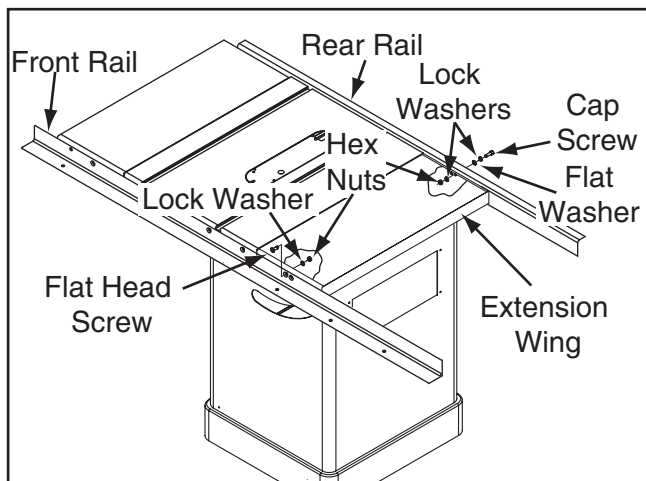

Figure 24. Extension wing attached to Model G0696X/G0697X.
2. With the assistance of a helper, place the extension wing between the rails, and fasten the wing to the front rail with (1) M8-1.25 x 25 flat head screw, 8mm lock washer, and M8-1.25 hex nut (see **Figure 24**). Finger tighten for now.
3. Attach the extension wing to the rear rail with (1) M8-1.25 x 25 cap screw, (2) 8mm lock washers, (1) 8mm flat washer and (1) M8-1.25 hex nut, as shown in **Figure 24**. Finger tighten for now.